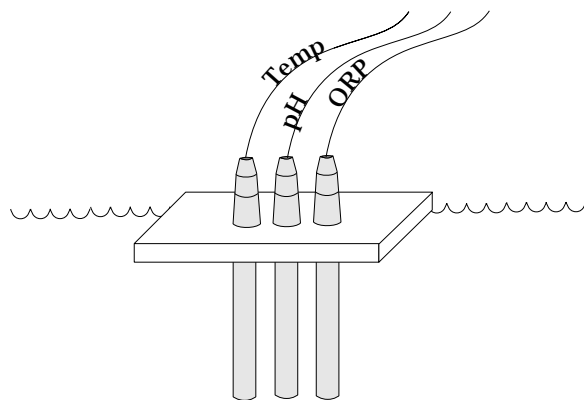

Figure 2.3 • In-Filter Location Using Float
- In-Filter Location Using a Float (Figure 2.3).
**In-Filter Location Using a Float**—The float installation shown in Figure 2.3 keeps probes from being submerged (or drying out), and is economical to construct.
To construct a probe float, punch a hole (slightly smaller than the probe diameter) through a small piece of styrofoam. Be sure the probes are no further than 6 inches apart. Insert the probes into the float, as shown in Figure 2.3.